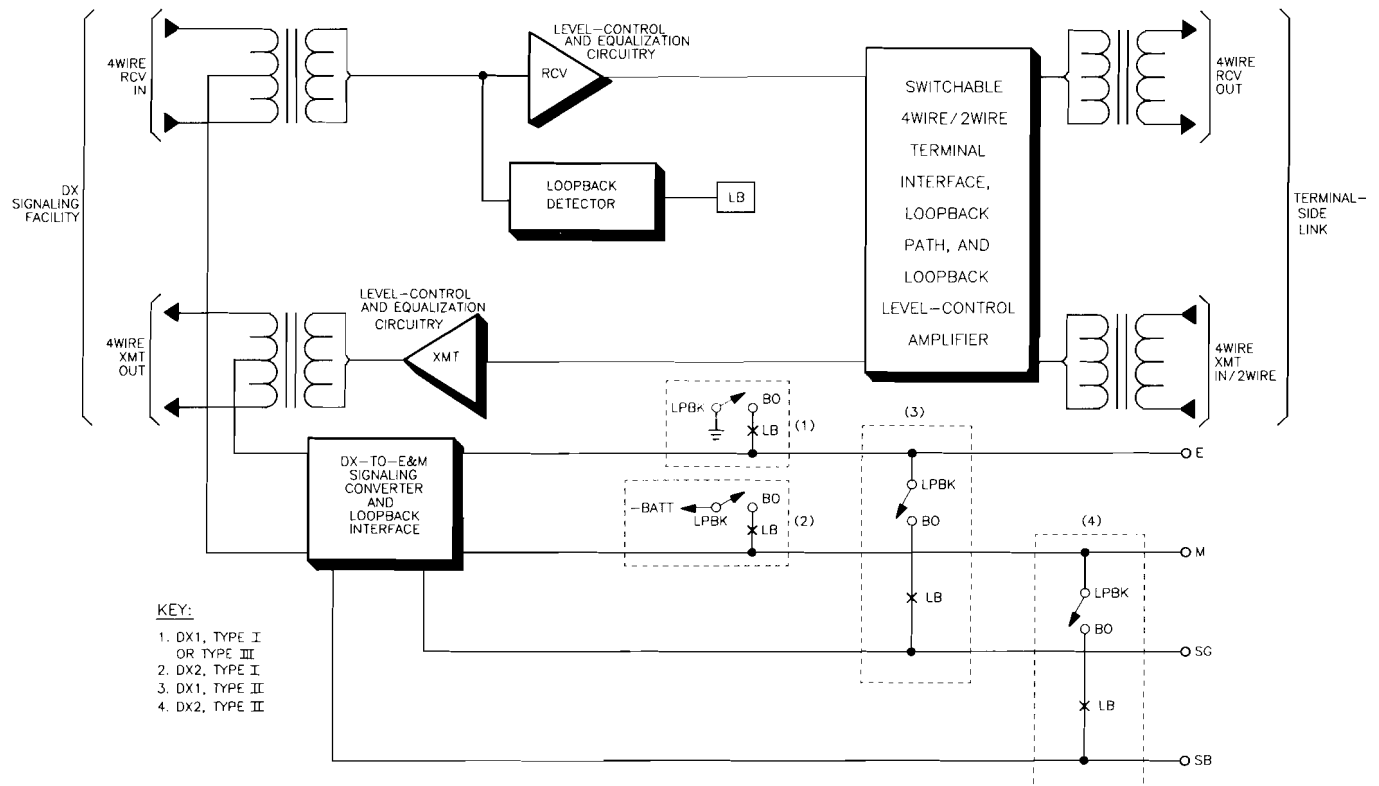

figure 11. Loopback route through 6168A module
2.20 **Overview.** Integral facility-side transmission and signaling loopback circuitry in the 6168A allows local or remote testing of both the module and the facility. This loopback circuitry can be activated either manually (locally) or via 2713Hz tone (remote two-tone loopback). A prescription loopback-level-control circuit introduces from 0 to 24dB of loss or from 0 to 24dB of gain into the loopback path in switch-selectable 0.1dB increments to provide true equal-level transmission loopback. In addition, a switch option conditions the 6168A to busy out its terminal side during loopback (see paragraph 2.24). Figure 11 shows, in simplified form, the transmission and signaling loopback paths through the module. A front-panel *lpbk* LED lights whenever the module is in the loopback mode.